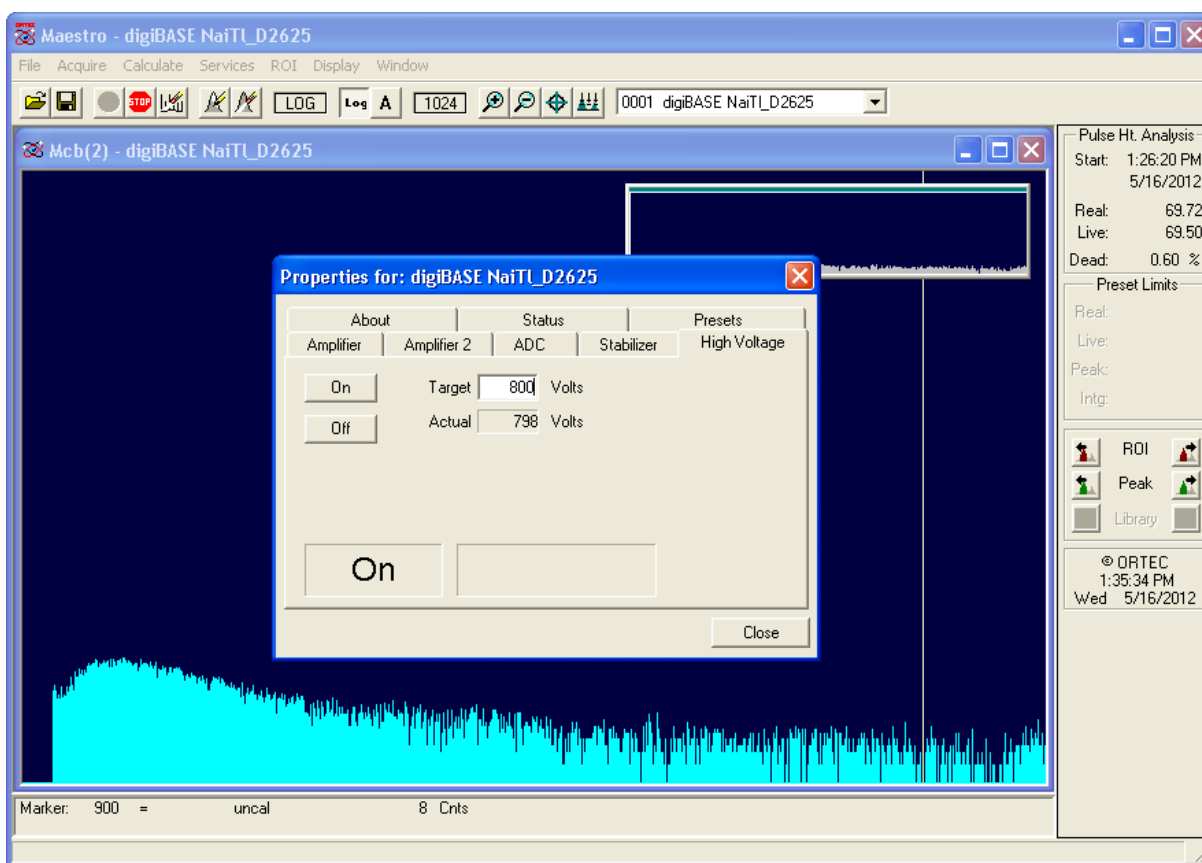

Figure 27. Adjust the Target High Voltage Value If Necessary.
- You will now use the MAESTRO controls for high voltage and amplifier fine gain to center the 1461 keV peak of ^{40}K in channel 900 on the spectrum window. From the MAESTRO menu bar, click on **Acquire/MCB Properties**, select the High Voltage tab (Fig. 27).